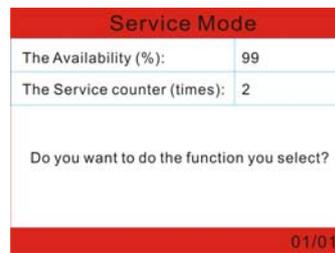

Figure 4-5
- After entering the system, the screen appears as shown in Figure 4-5: